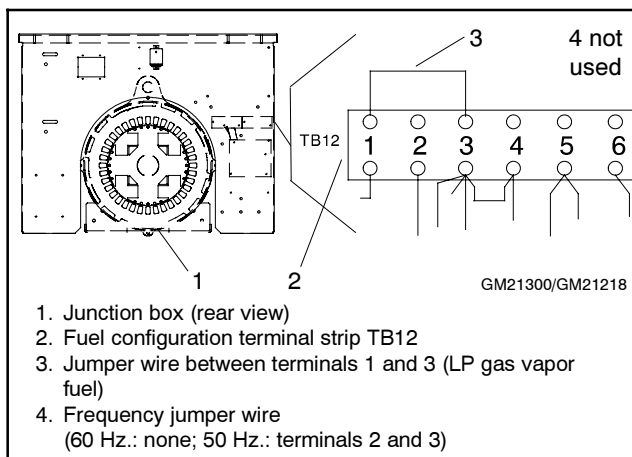

Figure 6 Fuel Configuration Jumper Wire, LP Fuel, 60 Hz, 30 kW (3.0 L) Model
4.1.2 **30 kW model with 3.0 L engine only.** Attach a user-supplied 18 ga. jumper wire between terminals 1 and 3 (LP gas vapor fuel). See Figure 6 for frequency jumper wire requirements.